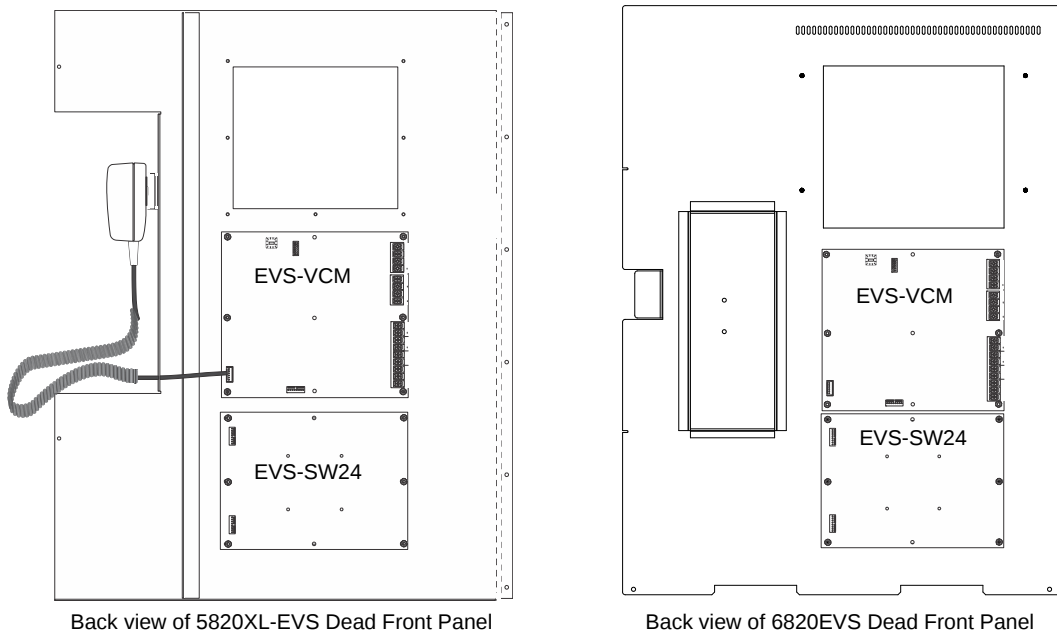

Figure 4.3 EVS-VCM Mounting Locations
4. Install the EVS-SW24 on the six mounting studs located on the inside of the dead front panel. See Figure 4.3 for mounting locations.